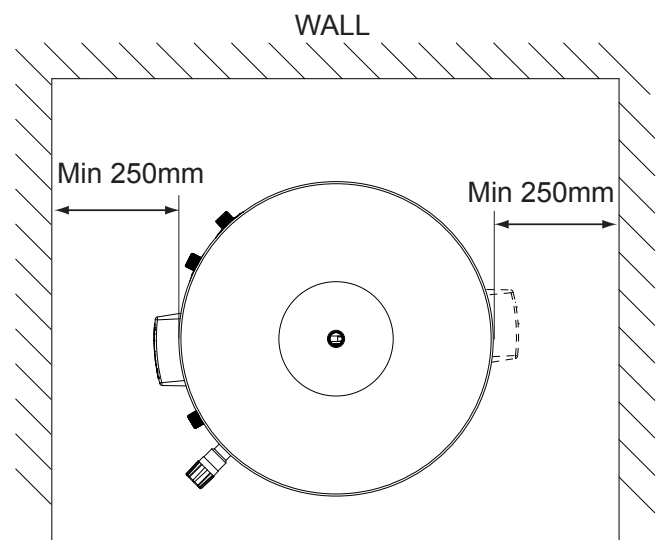

Fig. 01: Siting the Unit
- Access to associated controls and immersion heaters must be available for the servicing and maintenance of the system. Where these controls are installed against a wall a minimum distance of 250 mm must be left (see Fig. 01, below).